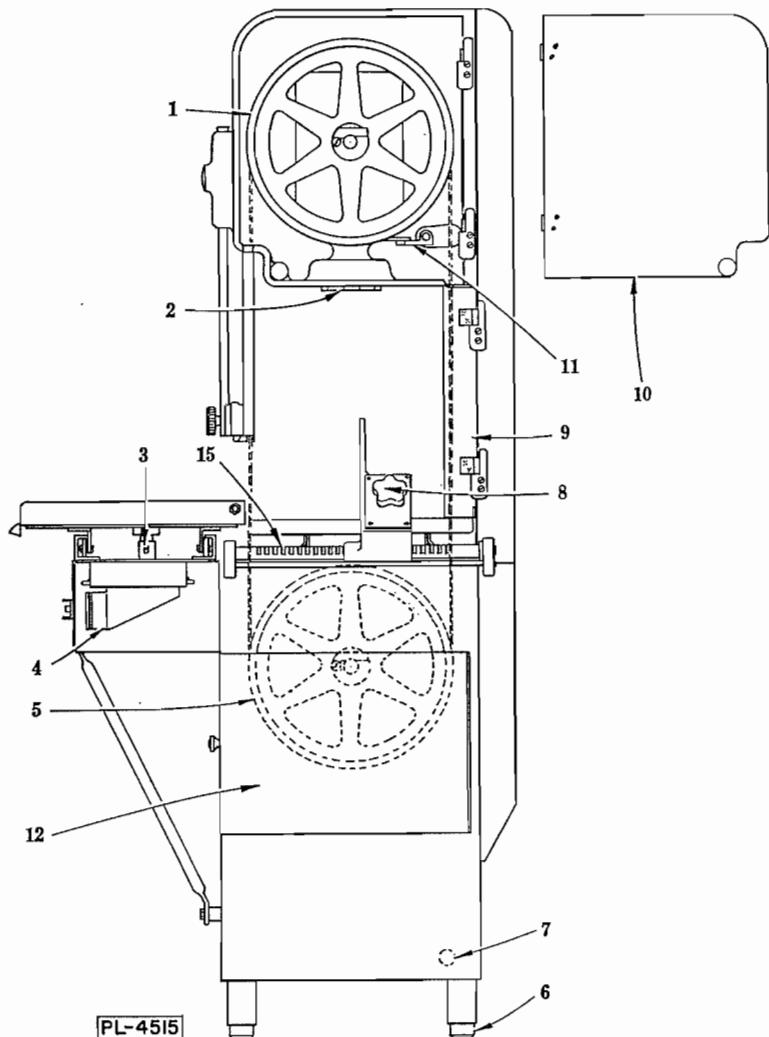
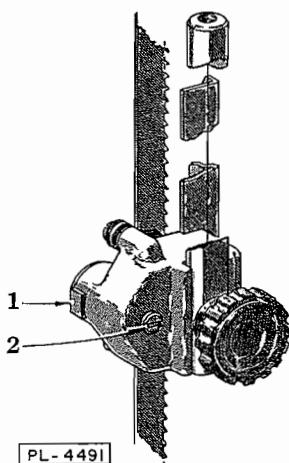
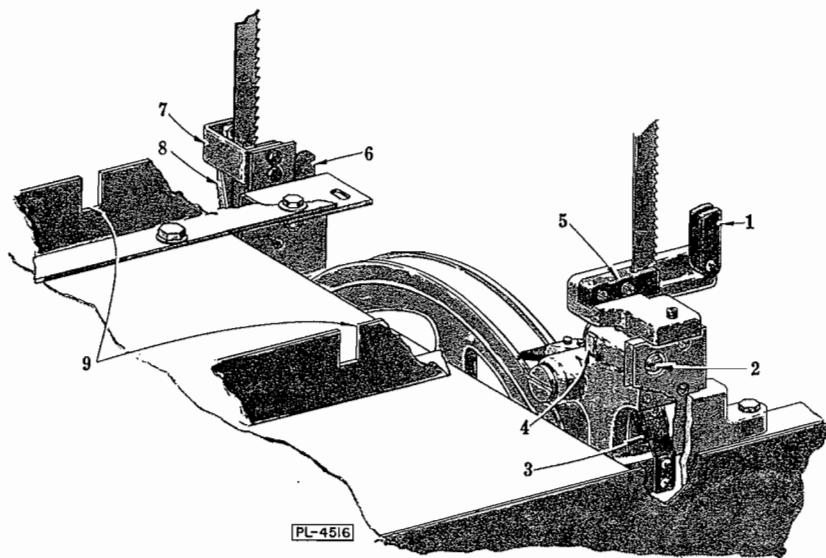
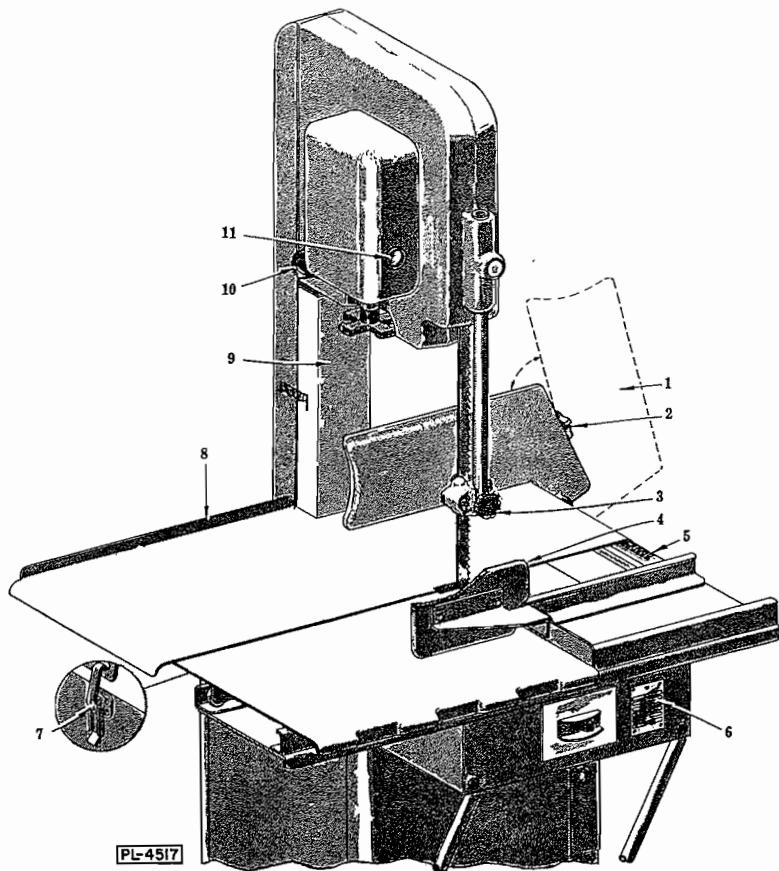

FIG. 1
FIG. 2
FIG. 3
FIG. 4
(1) Place the machine in the location where it is to be used. Re-assemble the feet (6, Fig. 1). Place a spirit level on top of the base unit and adjust the feet in the legs so that the base unit is level from side to side and front to back.
(2) Remove the motor access panel on the left side of the machine. Assemble the base cover plate assy. (with tracks) using the two taper pins as locators. Next, assemble the front and rear table rests, using the taper pins as locators.
(3) Lower the upper blade pulley (1, Fig. 1) by giving the tension adjustment hand wheel (2, Fig. 1) a few turns to the left. Open the head door (10, Fig. 1), then unlatch and open the blade cover assy. (9, Fig. 1). Lift the hand knob (8, Fig. 1) and raise the gage plate (1, Fig. 4) to its stopped position. Lift out the lower front wiper unit (Fig. 3) and lower the upper guide unit (Fig. 2) to its lowest position. Place the saw blade over the upper blade pulley (1, Fig. 1) and lower blade pulley (5, Fig. 1). The teeth must point to the right and downward when viewed from the front as shown in Fig. 3. If they do not point downward, remove the blade, twist inside out and replace it on the saw. Make sure the blade is properly centered in the rear blade wiper (8, Fig. 3) and properly placed in the upper guide unit (Fig. 2). Turn the tension adjustment hand wheel (2, Fig. 1) to the right until the figure 3 starts to show in the tension indicator (11, Fig. 4). Give the upper blade pulley a few turns by hand so that the blade centers itself on
(4) Close the head door (10, Fig. 1) and column cover (9, Fig. 1).
(5) Before assembling the lower front wiper unit (Fig. 3), swing up the bakelite guard (1, Fig. 3) and see that the saw blade is between the two wipers (3, Fig. 3) and in the guide slot of steel block (5, Fig. 3). After sliding the unit into place, close down the bakelite guard (1, Fig. 3).
(6) With the gage plate (1, Fig. 4) in the raised position (clear of the table area), assemble the table (8, Fig. 4). The table is positioned by the locating slots (9, Fig. 3) in the table rest angles of the base. Make sure the reinforcing angles of the table are outside the table rest angles of the base. Lock the table in place by the spring catch (7, Fig. 4).
(7) The carriage may be assembled from either side. When rolling the carriage into place depress the carriage stop (3, Fig. 1). After this stop is released, the carriage will then be retained from rolling off.
Check the data on the name plate (6, Fig. 4) to make sure that it agrees with your electrical supply before connecting to the power line. Make your installation connection from the power line directly to the switch. To avoid having conduit at the front of the machine, it is recommended that flexible (or rigid) conduit be connected through the electrical inlet hole in the base (7, Fig. 1). The conduit connector on the end of the motor lead conduit should be assembled in the knock-out hole in the switch box. Next, connect the motor leads to the switch.
(1) **UPPER GUIDE ASSEMBLY** (Fig. 2): Keep as low as the size of the work permits.
(3) **BUTT-END PUSHER** (4, Fig. 4): Use the pusher plate as described in section VI and it will be unnecessary to hold your hand near the running saw blade.
(4) **GAGE PLATE:** The end of the gage plate (1, Fig. 4) is shaped to give maximum support and protection at this critical point, and at the same time, facilitate the taking off of slices.
(1) Keep a small amount of grease in the six ball bearing rollers on the carriage.
(2) Apply a few drops of oil frequently to the gage plate rack (5, Fig. 4) and work the gage plate assembly back and forth a few times. (See cleaning instructions).
(3) For top operating efficiency have your local Hobart service man check this machine at least once a year.
knob (2, Fig. 4) on the scale etched on the table. If the gage plate is not needed and interferes with the work, it may be raised out of the way. Lift the release knob (2, Fig. 4) and slide the gage plate on back to the end of gage plate rack (5, Fig. 4). The gage plate may be swung to a raised position at any setting along the gage plate rack without lifting the release knob.
To slice short ends, use the pusher plate (4, Fig. 4) to hold the meat against the gage plate. A groove of the pusher plate slips over and slides along the formed edge of the carriage. By holding the pusher plate with your right hand, your hand will then always be a safe distance from the saw blade and the stop will prevent the pusher plate from going too far. When not using the pusher plate, keep it stored beneath the carriage track, where provision has been made for holding it (4, Fig. 1).
(1) Roll carriage to extreme right or left. This exposes the carriage stop. Depress carriage stop and roll off stainless carriage.
(2) Rotate gage plate to raised position.
(3) Release table clamp and remove stainless steel table.
(4) Clean the gage plate rack (15, Fig. 1) making sure that there is no "build-up" of mate-
(5) Loosen the hand knob (10, Fig. 4), bump with hand to loosen stud and then remove the hand knob. Open head door (10, Fig. 1). Lift out upper pulley wiper (11, Fig. 1). Clean unit and lubricate with TASTELESS oil.
(6) Swing lower saw bakelite guard (1, Fig. 3) up and lift out lower wiper assemby. Clean unit thoroughly and lubricate with TASTELESS oil.
(7) Press spring catch (6, Fig. 3) to release, then remove rear wiper sub-assy. (7, Fig. 3). Clean unit.
(8) Open base door (12, Fig. 1) and remove scrap pan.
(9) Release blade tension by turning tension adjustment hand wheel (2, Fig. 1) to the left. Open head door, unlatch and open the blade cover assy. Remove saw blade.
(10) To remove the upper guide unit, remove the hand knob (3, Fig. 4) (blade tension already released) then lift off unit. Clean, lubricate with TASTELESS oil and replace.
(11) The upper and lower blade pulleys may be removed from their shafts by swinging the retaining latches clear of the shafts, then sliding the pulley from the shaft. Clean pulleys and lubricate bore before replacing.
(12) Special designed hinges allow the head door (10, Fig. 1), the blade cover assembly (9, Fig. 1) and the base door (12, Fig. 1) to be lifted clear of the machine for thorough cleaning.
- (1) Move the carriage to the left to the stop, then depress the stop and move the carriage a few more inches just beyond the bakelite guard.
- (2) Rotate gage plate to raised position.